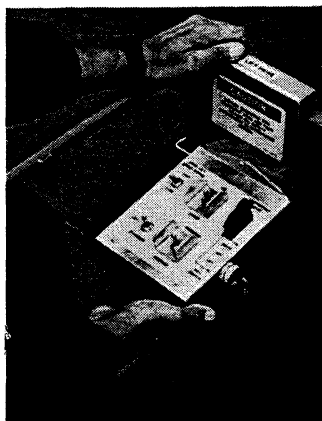

Figure 3.
1. Hang control console on guardrail (Figure 3).